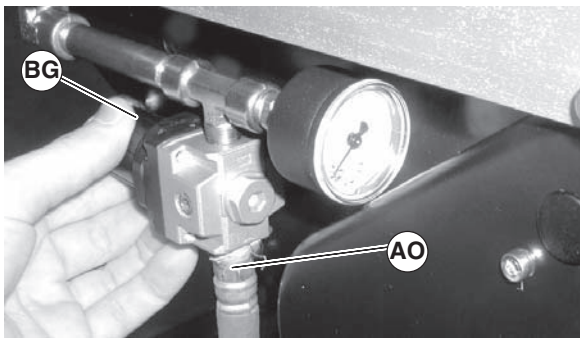

Figure 34
1. Connect air supply (Figure 34, item AO) to regulator (BG).
2. Adjust regulator (Figure 34, item BG) until gage reads the appropriate pressure. See following table for suggested pressures.